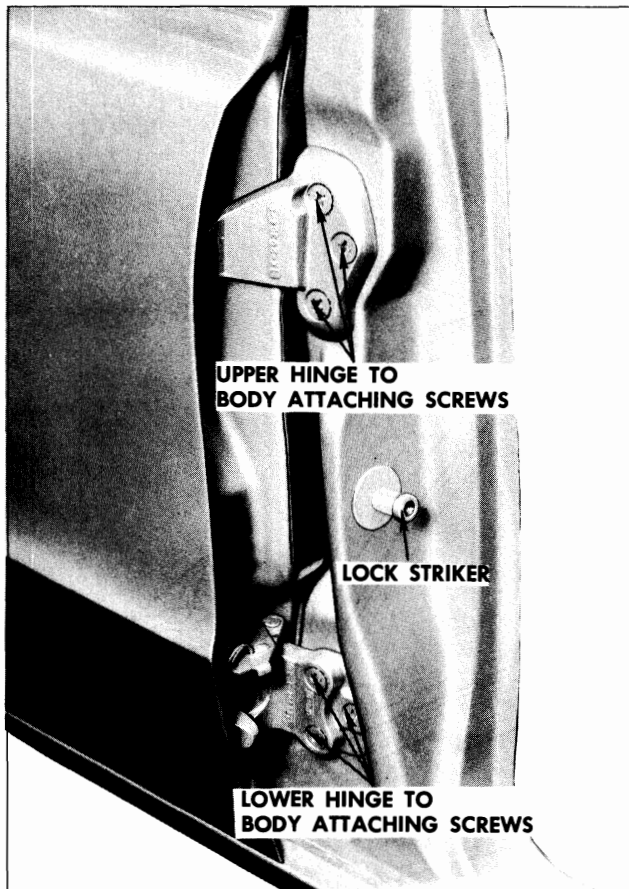
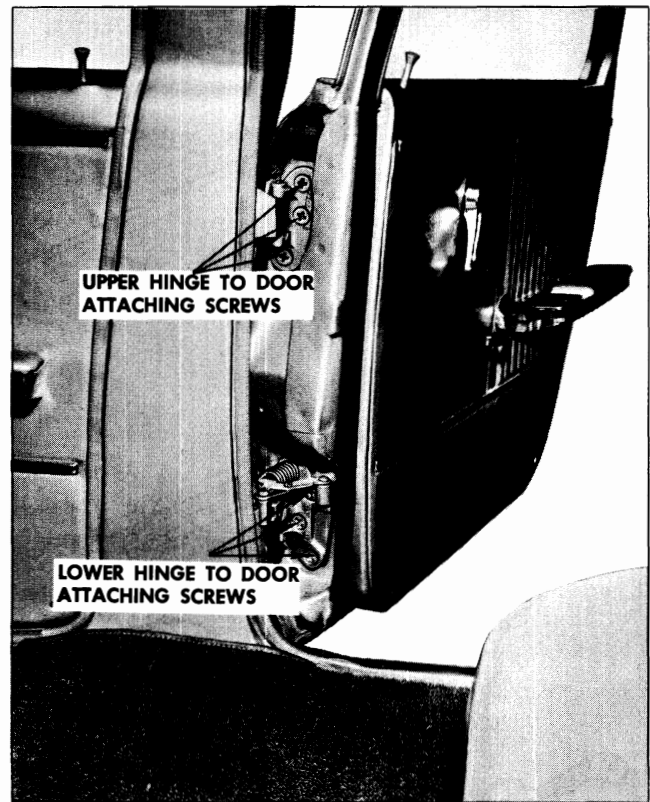

Fig. 12-36 Rear Door Hinge Body Attachment
Fig. 12-37 Hinge to Door Attachment
2. With door properly supported, remove upper and lower hinge attaching screws (Fig. 12-36 and Fig. 12-37).